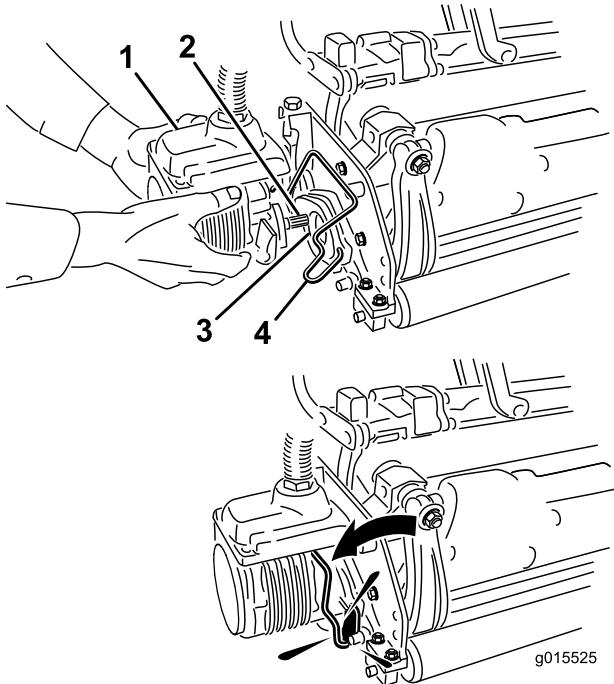

Figure 15
- Coat the spline shaft of the cutting unit motor with clean grease (Figure 15).
- Insert the motor into the left side of the cutting unit (as viewed from the operator’s position) and pull the motor retaining bar on the cutting unit toward the motor until you hear an audible “click” from both sides of the motor (Figure 15).